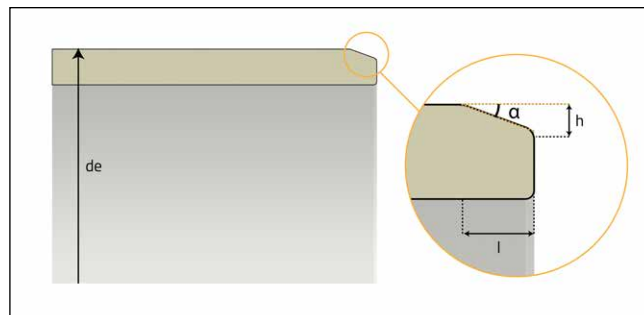

Fig. 65: Required chamfering of the pipe spigot
- Chamfer the cut edge on the outside of the pipe according to Table 16 and round the edges with a diamond grinding disk (Fig. 65).